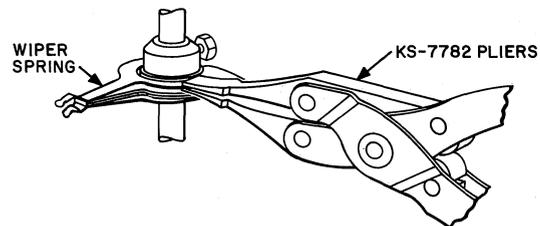

Fig. 12 — Method of Adjusting Tension of Wiper Springs
(4) To adjust the wiper spring tension, first loosen the wiper spring assembly on the shaft with the 3-inch C screwdriver or the 555A wrench. Rotate the springs into the space opposite the bank so that they are accessible.
(5) To increase the tension of the wiper springs, apply the pliers to the circular part of the spring first on one side, as shown in Fig. 12, and then on the opposite side. Twist the pliers in a direction to force the wiper springs toward its opposing spring. Repeat this operation on the other spring of the pair, equalizing the adjustment so that the follow on both springs of the pair will be the same when checked in accordance with requirement 2.09. Reset the wipers in their proper positions as described in 3.10 and 3.11.